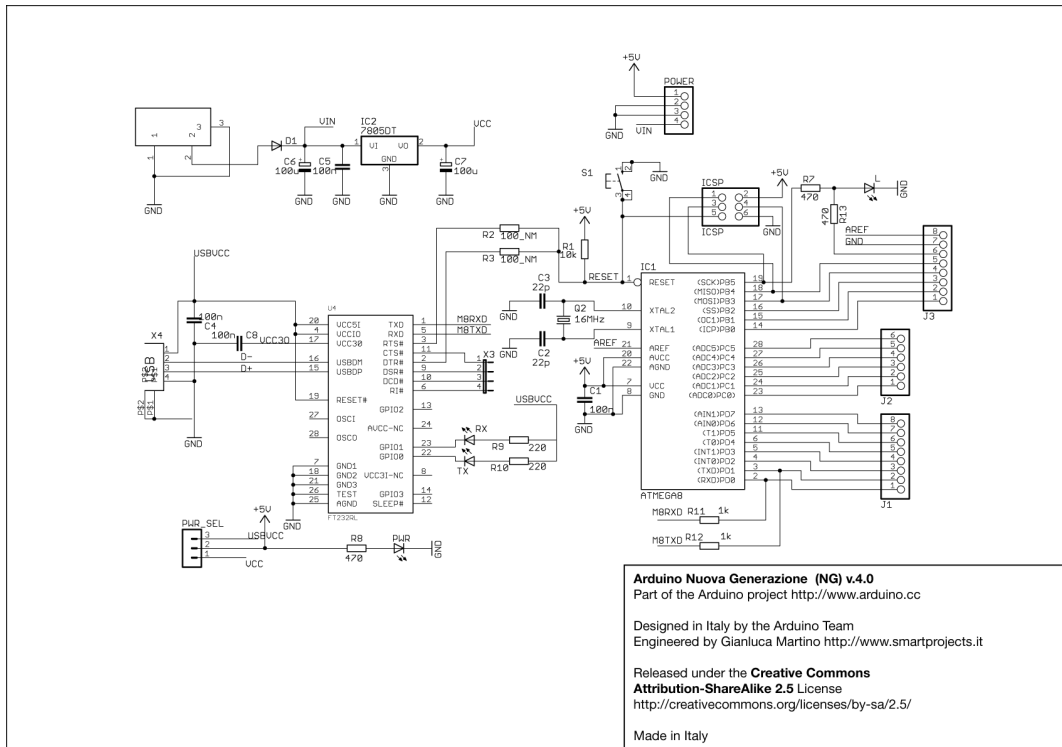

Figure 3: Arduino Diecimila Board Schematic.
Here we assume an Arduino Diecimila board with Atmel ATmega168 processor, schematic as shown in figure 3.
- On the Arduino Diecimila circuit board, there are two LEDs labelled `Rx` and `Tx`. One might logically expect those LEDs would operate when the serial port is receiving or sending information. However, if you look at the schematic of the Diecimila, as shown in figure 3, the LEDs are driven by the FTDI interface chip, which connects the serial output of the processor to the USB connection of the host. We were fooled by the lack of activity on the `Tx` led when the program was operating to believe there was a problem with the code. Eventually we hooked up an oscilloscope to the `Tx` pin `PD1` and saw that there was activity, so the code was probably working correctly. (As it turned out, that was the case.)